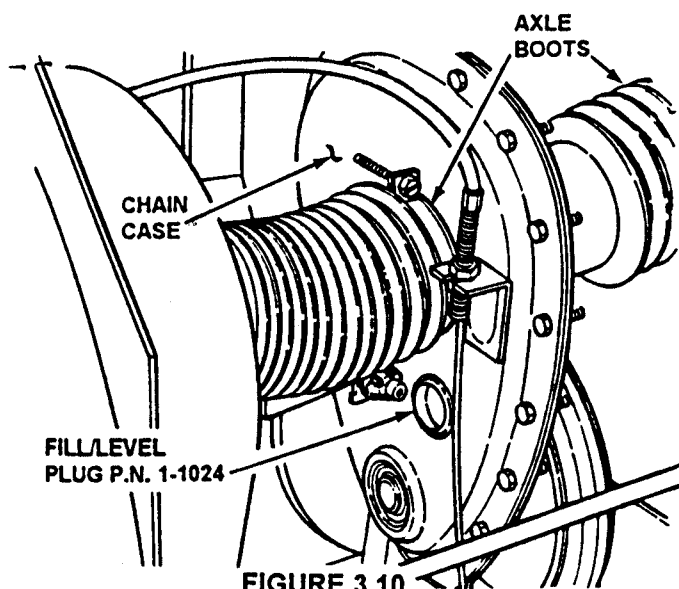

FIGURE 3.10
a. Check fill/level plug for damage. If signs of wear or cracks are visible, replace plug with new plug. See Figure 3.10.
b. To check lubricant in chain case, remove fill/level plug and look for lubricant on the internal components of the chain case. If no lubricant is visible, add SNAPPER "00" grease as needed. See Figure 3.10.
Check axle boots for signs of wear or cracks. If cracks or wear are visible, contact a SNAPPER dealer for service. Refer to Figure 3.10.